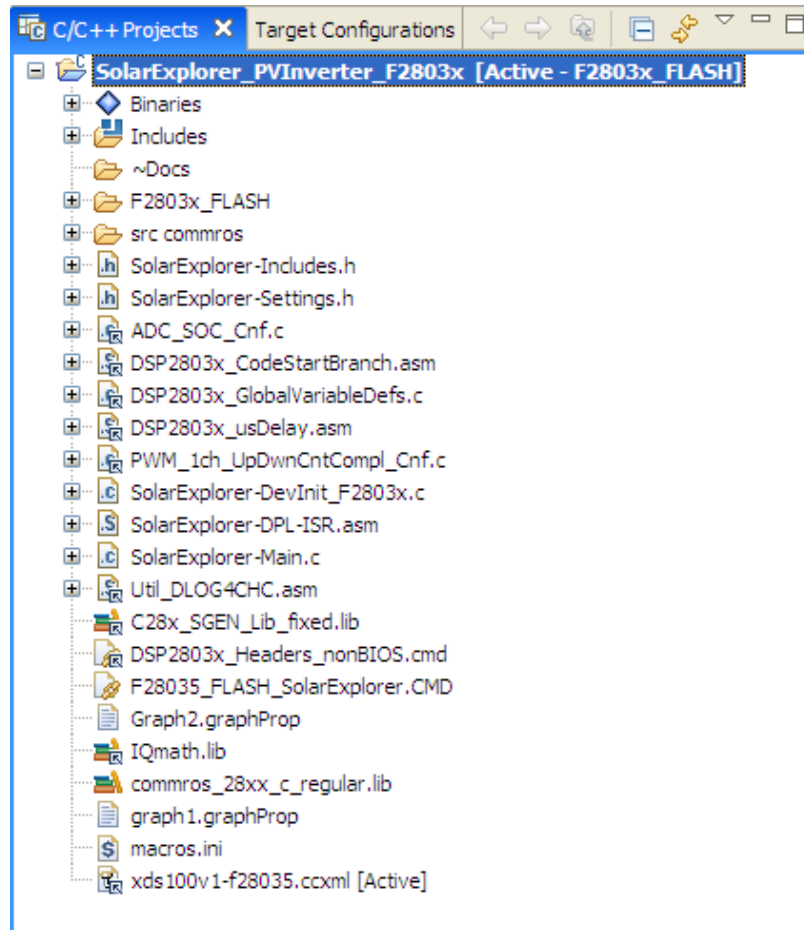

Fig 18 PV Inverter project in C/C++ tab
- Fig 18 shows the project in the CCSv4 C/C++ Project tab, it shows all the key files used in the project.
2. In the project window on the left, click the plus sign (+) to the left of Project, Fig 18. Open and inspect *SolarExplorer-DevInit_F2803x.c* by double clicking on the filename in the project window. Note that system clock, peripheral clock prescale, and peripheral clock enables have been setup. Next, notice how the shared GPIO pins have been configured.